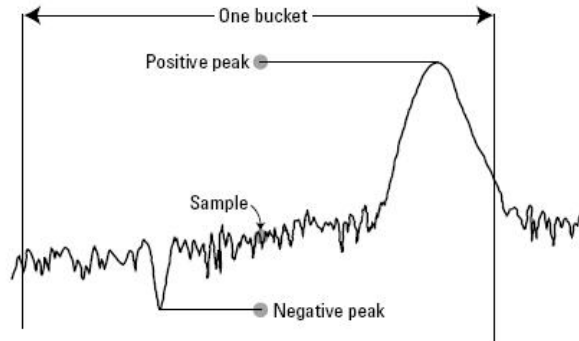
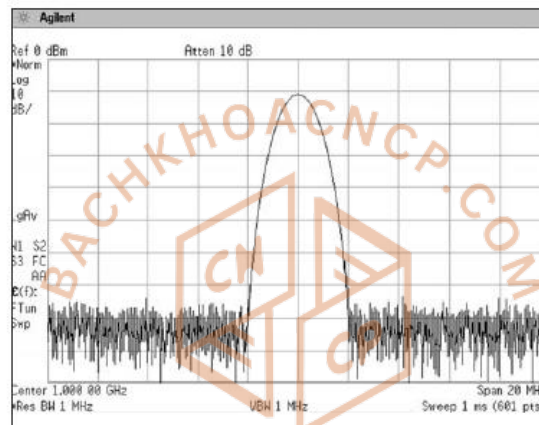

Figure 20. Trace point saved in memory is based on detector type algorithm
Figure 21. Normal detection displays maximum values in buckets where the signal only rises or only falls
Positive peak, negative peak and sample detectors are shown in Figure 20.
Peak detection mode detects the highest level in each bucket, and is a good choice for analyzing sinusoids, but tends to over-respond to noise. It is the fastest detection mode. Sample detection mode displays the center point in each bucket, regardless of power. Sample detection is good for noise measurements, and accurately indicates the true randomness of noise. Sample detection, however, is inaccurate for measuring continuous wave (CW) signals with narrow resolution bandwidths, and may miss signals that do not fall on the same point in each bucket. Negative peak detection mode displays the lowest power level in each bucket. This mode is good for AM or FM demodulation and distinguishes between random and impulse noise. Negative peak detection does not give the analyzer better sensitivity, although the noise floor may appear to drop. A comparative view of what each detection mode displays in a bucket for a sinusoid signal is shown in Figure 20. Higher performance spectrum analyzers also have a detection mode called Normal detection, shown in Figure 21.